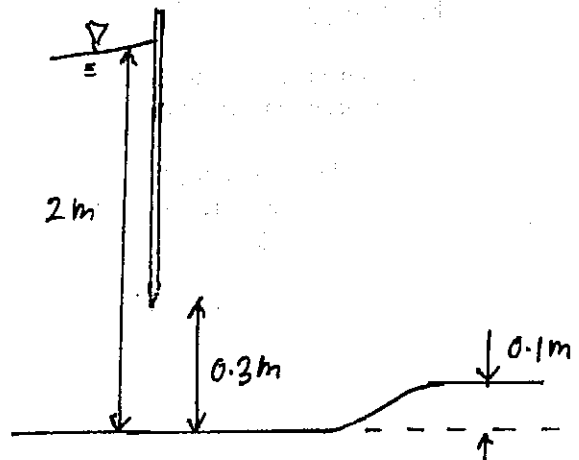

FIGURE 5
5) A horizontal open channel has a rectangular cross-section and a width of 2 m. A sluice gate is located on the channel as shown in Figure 5. There is a smooth step – of height 0.1 m – in the channel just downstream of the sluice gate. The sluice gate has an opening of 0.3 m while the depth of water upstream of the gate is 2 m as shown in the figure. The density of water is 1000 kg/m^3 .